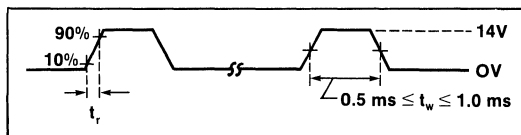

Figure 3. Protect Programming Pulse
Step 2: Taking one pin at a time, apply a protect programming pulse (Figure 3) to each user-bus bit (UD0-UD7)—refer to Table 3 for min/max specifications pertaining to voltage and current.